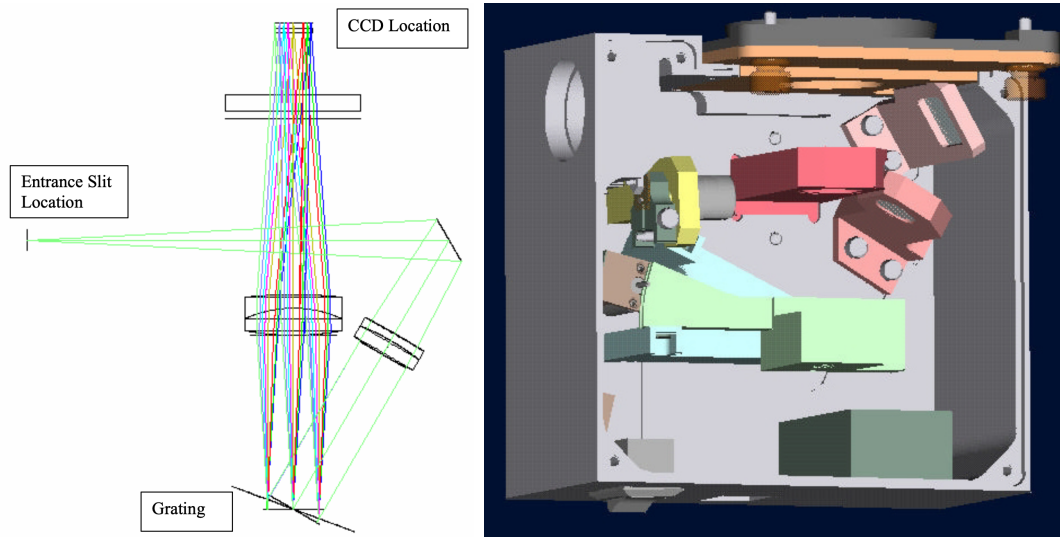

Figure 1: Spectrograph optical layout and mechanical design.
- Remove the side panel of the spectrograph with the Allen wrench. Looking inside will give you a very clear idea of how the spectrograph works. Be sure and compare what you see with Figure 1 to identify the optical components.
- Now we will check whether the motors inside the DSS-7 move correctly when controlled by CCDOps. Start by disabling the DSS, in CCDOps do DSS/DSS Mode and make sure that the “Enable DSS” box is NOT checked. Now run through the commands that move the slit in and out of the light path and rotate the diffraction grating. This procedure is described in the section “Aligning the DSS-7 to the camera:” of the DSS-7 manual: select MOVE TELESCOPE under TRACK. Select XPLUS with a time of 0.2 seconds, and hit OK. The grating assembly should rotate clockwise (CW) to its limit. Next, select XMINUS and try it. The grating should rotate counterclockwise (CCW). Do this a couple times to make sure it moves freely. Next, select YPLUS and hit OK.